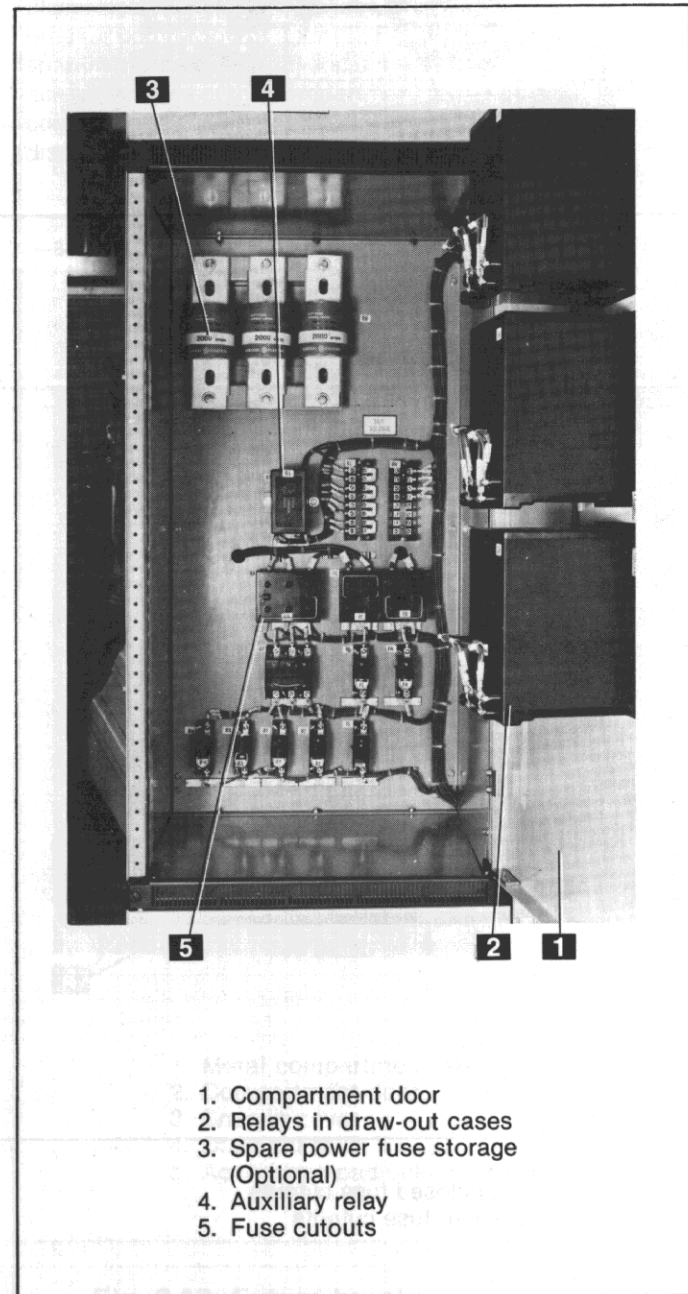

Fig. 3-21. Auxiliary/transition compartments — view of top section
Figure 3-21 illustrates an auxiliary/transition compartment with switchgear-type relays mounted in semi-flush draw-out cases (2) installed on the compartment door (1). Space in the compartment has been used for storage of spare power fuses (3). The compartment has been used for storage of spare power fuses (3).